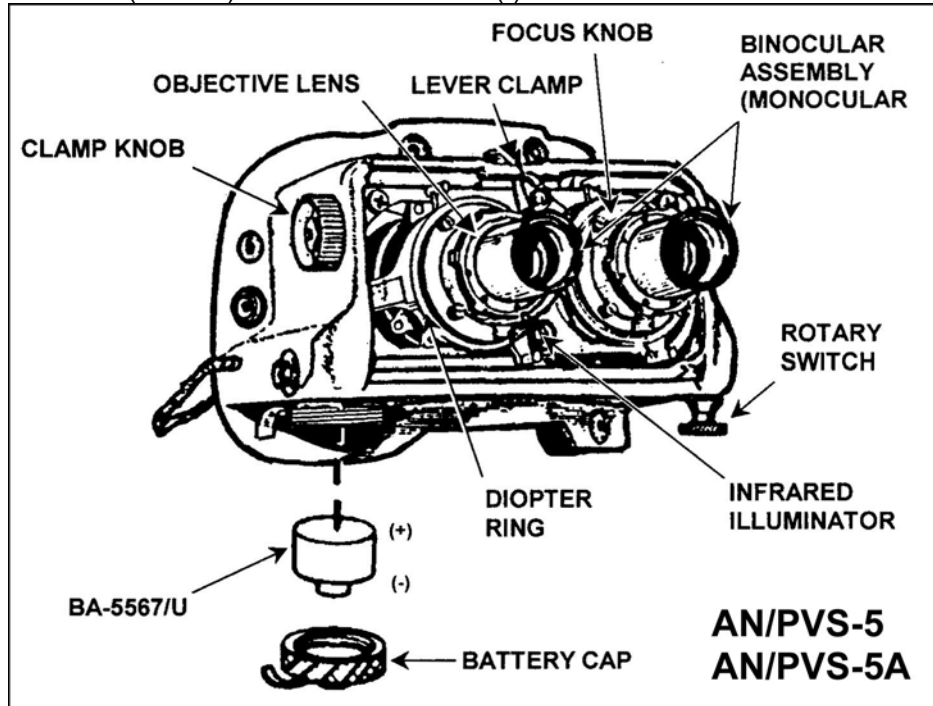

Figure 2. AN/PVS-5 and AN/PVS-5A goggles.
d. Install the BA-5567/U (lithium) battery or BA-3058/U (alkaline) battery (Figures 2, 3, and 4).
- (1) Remove the BA-5567/U (lithium) battery cap or BA-3058/U (alkaline) battery cap(s).
- (2) Insert the BA-5567/U (lithium) battery with the recessed (+) side in first. Insert the BA-3058/U (alkaline) batteries with the flat (-) side in first.